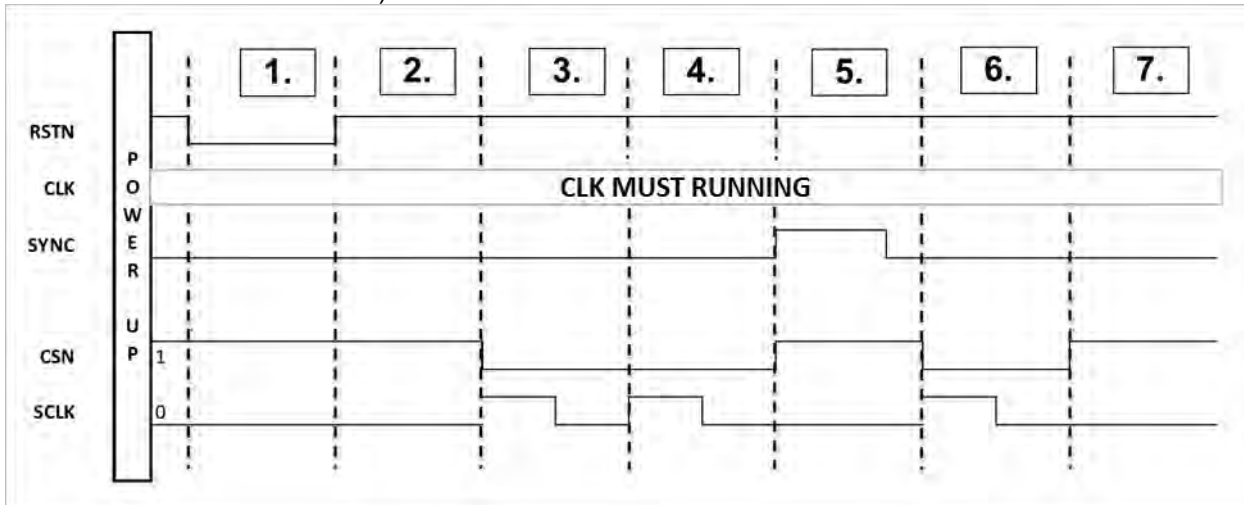

Figure 12: Start-up sequence when using the SPI interface
Figure 12 presents the reset and synchronization to realize after power-up when the SPI is used (see §7 for more information on the SPI interface).
- **5.** A pulse is applied onto the SYNC input to reset the internal clocks (SYNC signal in Figure 12). At this stage, the Trigger mode is disabled.